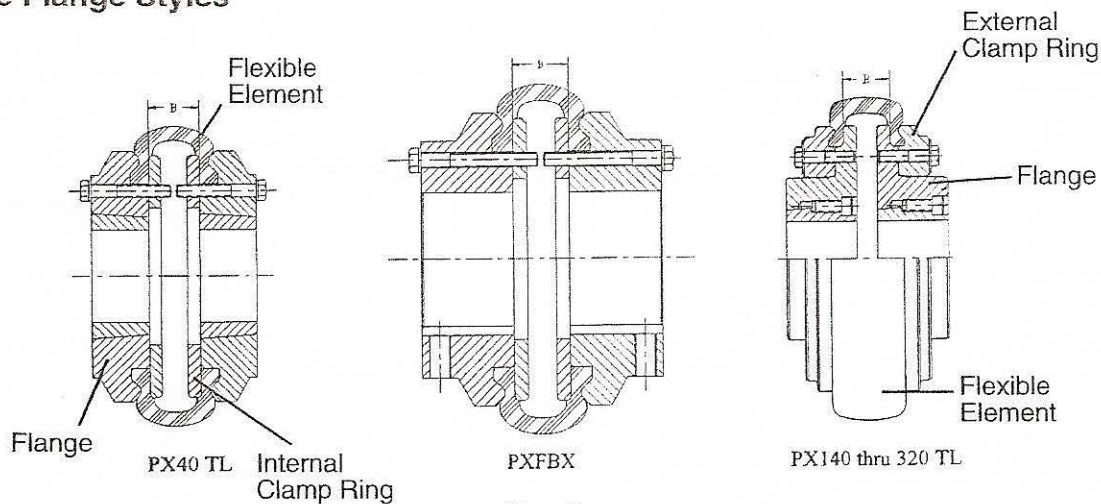

Figure 1
3. Referring to Figure 1 and Table 1, observe the "B" dimension for the coupling size being installed. Mount and position the flanges on the shafts so that dimension "B" is achieved when the shafts are in their final position. For the TAPER-LOCK flange, secure the flange assembly to the shaft per Steps 4 and 5 in the bushing instructions. For the clearance fit straight bore (FBX) flange, tighten the set screws to values listed in Table 2. Align flanges